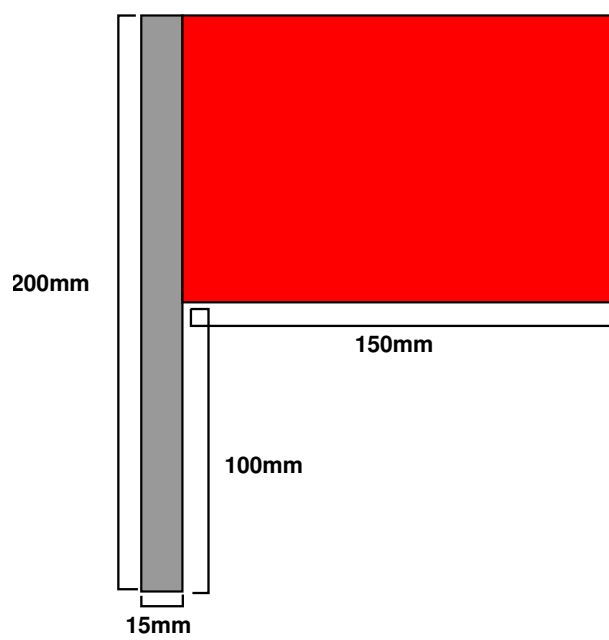

Figure 1: An example robot flag.
3.2.1 A “robot flag” is a removable identifier that will be attached to a robot throughout a match. It features identifying areas to allow spectators to easily associate a robot with its starting area. An example of one of these flags is shown in figure 1. The markings in the identifying areas are intentionally not specified.
3.2.3 The identifying area will be attached to the top $100mm \pm 10mm$ of the mounting cylinder, with a width of $150mm \pm 10mm$, as described in figure 1.